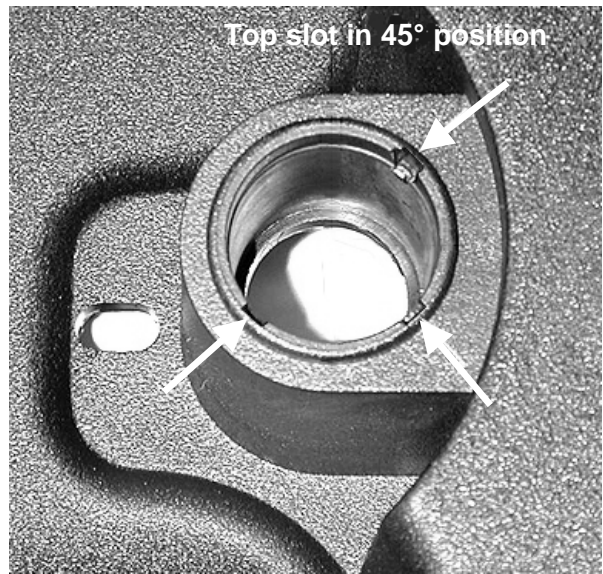

Figure 1: Old vs new lock comparison
- For old vs new lock comparison, see Figure 1, opposite page.
- 4) With a scribe, carefully transfer the position of the slots in the bore of the old handle onto the new (see arrows in Figures 1, 3, 4 and 5).